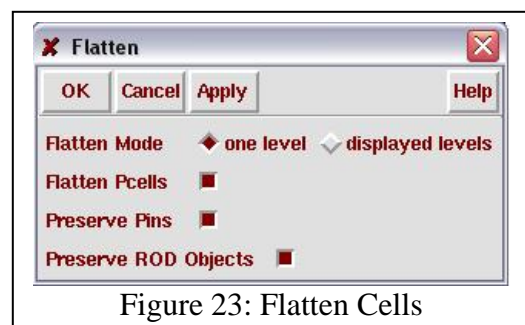

Figure 23: Flatten Cells
14. Check *one level*, *Flatten Pcells*, *Preserve Pins*, and *Preserve ROD Objects* as in Figure 23. Click **OK**.